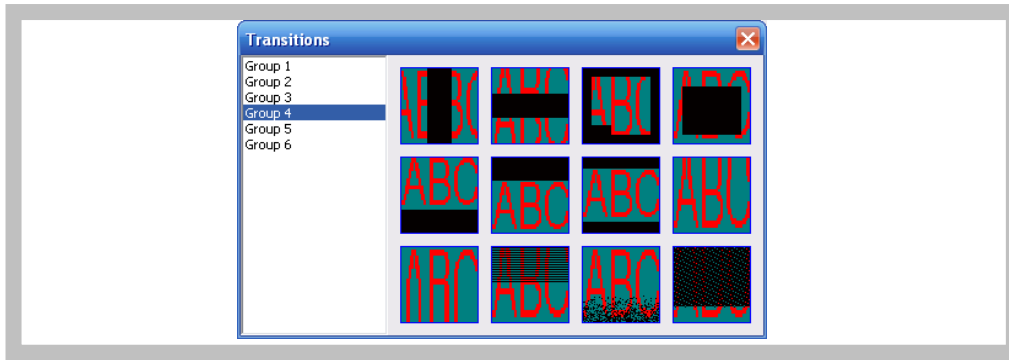

Figure22 Effect preview and select
More than 60 effects for text program, such as: snow fall, mosaic, slide zebra, fan open and etc. User can click the preview window to preview and select effects, as Figure22 shown.
- **Effect select:** Moving “speed” and “stay” time can be chosen. Click the effect pull-down menu to select or click the preview icon to virtual preview and select the text effect, as Figure22 shown. When select the “random” (the preview icon is “?”), the controller will play the text program in random effects.
More than 60 effects for text, office document and image file; such as: snow fall, mosaic, slide zebra, fan open and etc. User can click the preview window to preview and select effects, as Figure22 shown.
- **Effect selection:** Moving “speed” and “stay” time can be chosen. Click the effect pull-down menu to select or click the preview icon to virtual preview and select the text effect, as Figure22 shown. When select the “random” (the preview icon is “?”), the controller will play the text program in random effects.
- Effect: Moving “speed” and “stay” time can be chosen. Click the effect pull-down menu to select or click the preview icon to virtual preview and select the text effect, as Figure22 shown. When select the “random” (the preview icon is “?”), the controller will play the text program in random effects.